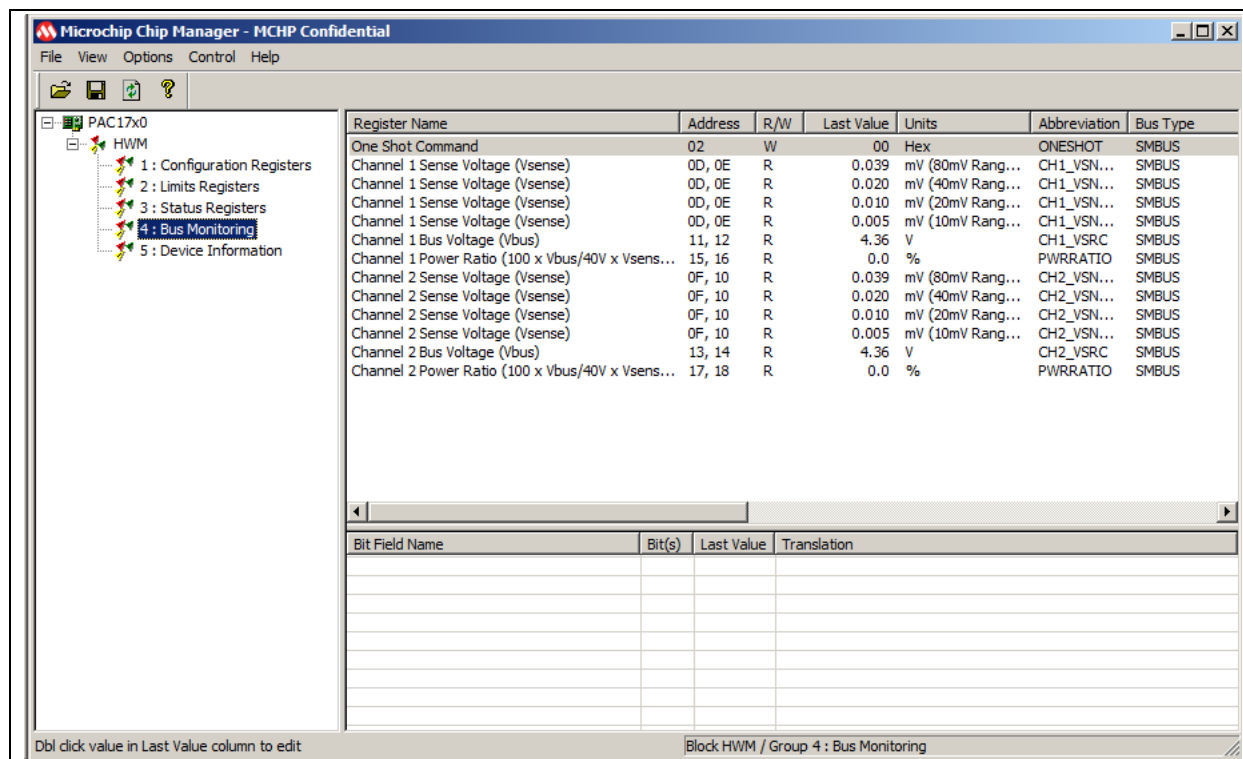

FIGURE 2-11: Chip Manager Register Groups.
12. From the Chip Manager main menu, ensure that Options > Auto refresh Registers is checked. In the left panel, click the Hardware Monitor (HWM) to expand the content, then select any of the register groups, as shown in Figure 2-11. The SM_ACT LED on the board starts blinking when any of the register groups are selected. The register values are automatically updated every second when the Auto Refresh option is on.